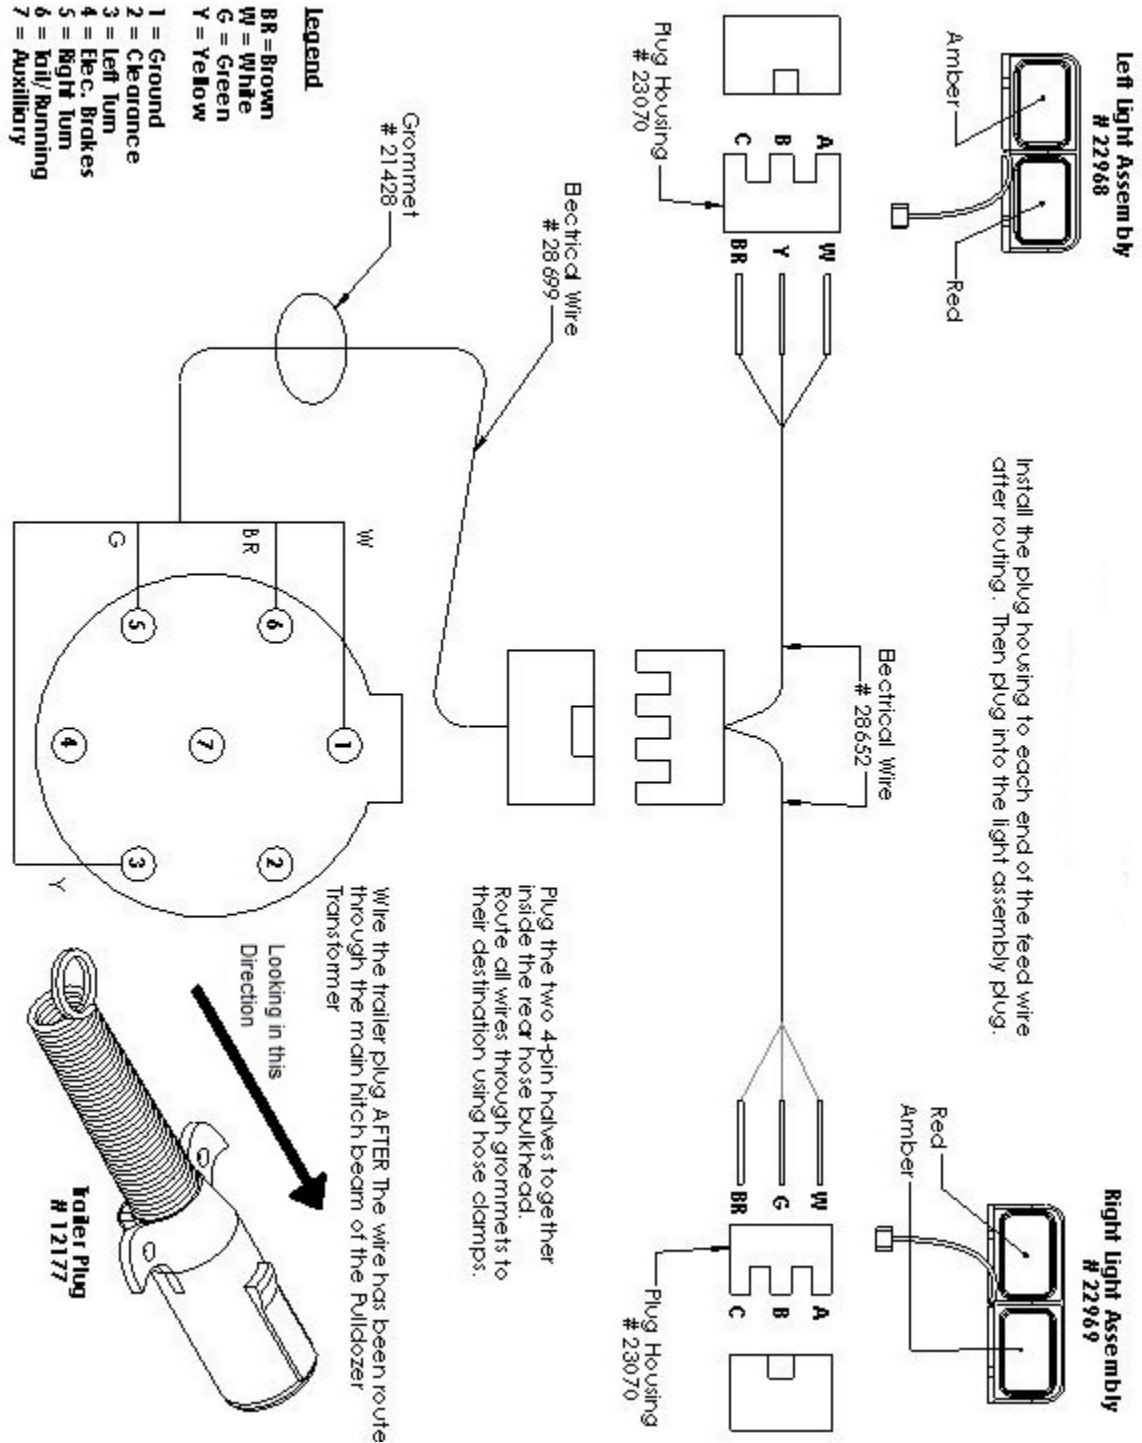

Figure 3.41 – Pulldozer Transformer 2470 Light Wiring Schematic
- b) Connect the 7-pin round trailer plug following figure 3.41.